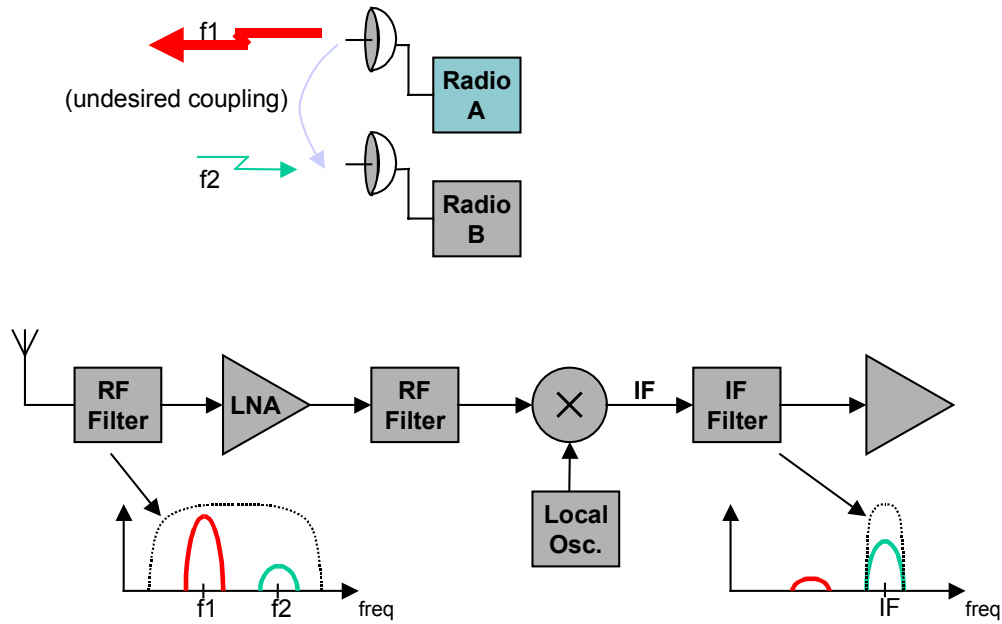

Figure 2.4– Co-located radio interference
The self-interference situation is illustrated in Figure 2.4, that shows radio A transmitting on channel f1 while a co-located radio is trying to receive on channel f2. Because the antennas are in close proximity antenna B will pick up a significant portion of the signal transmitted by radio A.
Figure 2.4 also shows a block diagram of the radio front end circuitry. It includes an RF filter to reject out-of-band signals, followed by a Low Noise Amplifier (LNA), a second RF filter, Mixer and finally the Intermediate Frequency (IF) filter. Channel selection occurs at the Intermediate Frequency (IF), where the narrow band IF filter blocks out the other channels. This means that if the interferer (radio A) is in close proximity, and is transmitting while radio B is trying to receive, it may saturate the LNA or the Mixer of radio B. This results in radio B making errors even when it is set to a different channel than radio A.